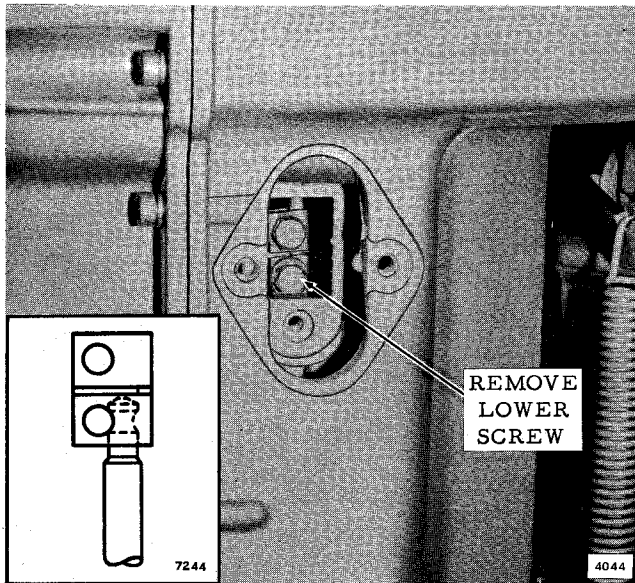

Figure 6-6. Disconnect Shift Rod
- c. Remove outer and inner exhaust housing cover plates. Remove lower screw from shift rod connector. See Figure 6-6.